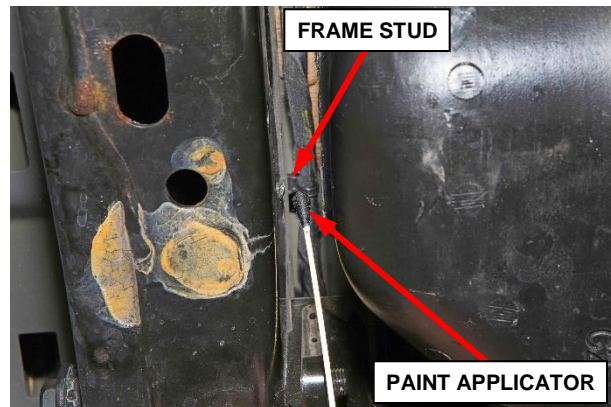

Figure 8 – Apply Paint to Frame Stud
3. Obtain black spray paint specified in the Parts Section and a brush or cotton swab or suitable applicator. Spray a small amount of paint into a cup to dip the applicator or directly onto the applicator then apply the paint to the vehicle frame covering any bare exposed metal in the location of the removed frame stud (Figure 8).